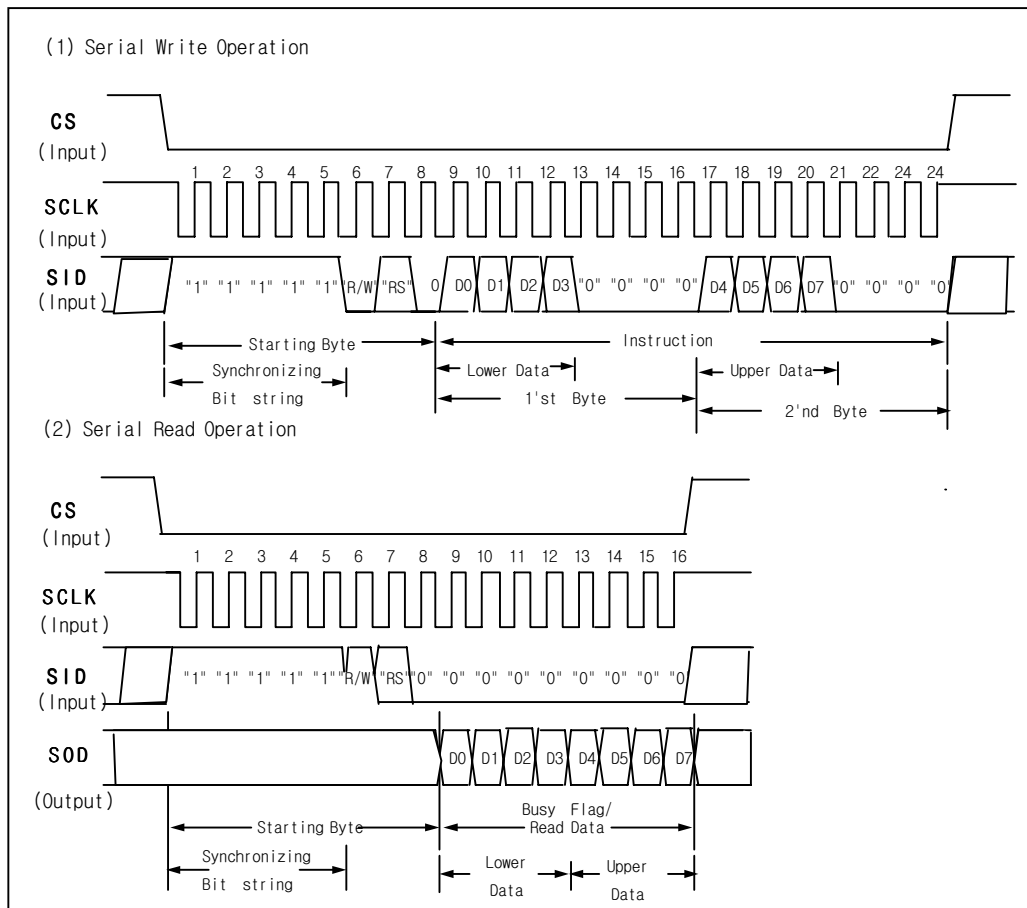

Fig 13. Timing Diagram of Serial Data Transfer
Before transfer real data, start byte has to be transferred. It is composed of succeeding 5 "High" bits, read write control bit (R/W), register selection bit (RS), and end bit that indicates the end of start byte. Whenever succeeding 5 "High" bits are detected by KS0074, it resets serial transfer counter and prepares to receive next information. The next input data are register selection bit which determine which register is to be used, and read write control bit that determine the direction of data. Then end bit is transferred, which must have "Low" value to show the end of start byte. (Refer to Fig 13. Fig 14)